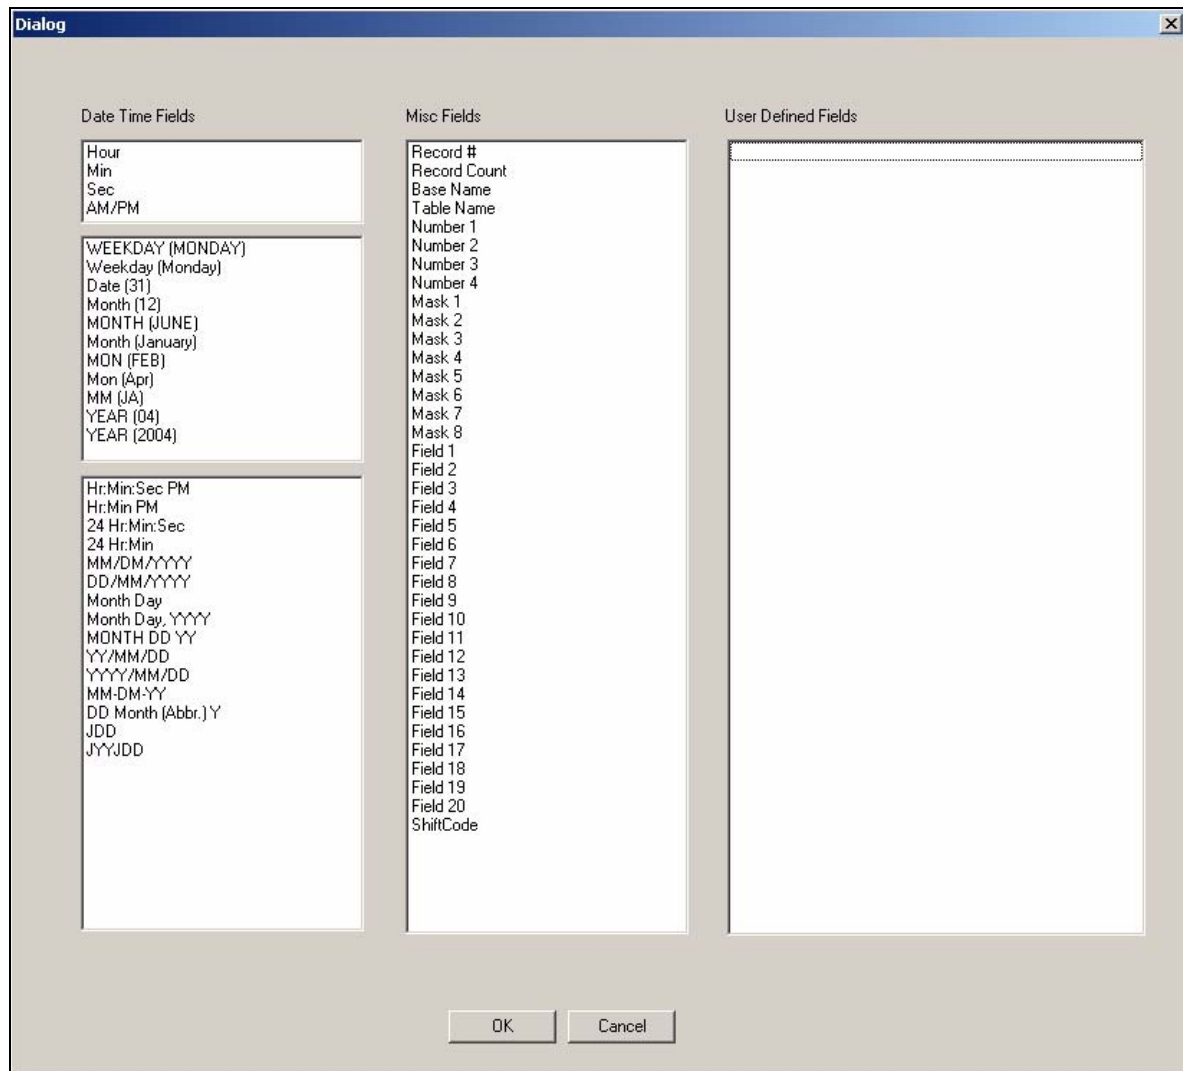

Figure 4-14: Optional Fields
- 5 Click on the *Optional Fields* button to add *Date Time*, *Misc* fields and *User Defined* fields. The *Dialog* screen appears (see Figure 4-14 on page 4-12).